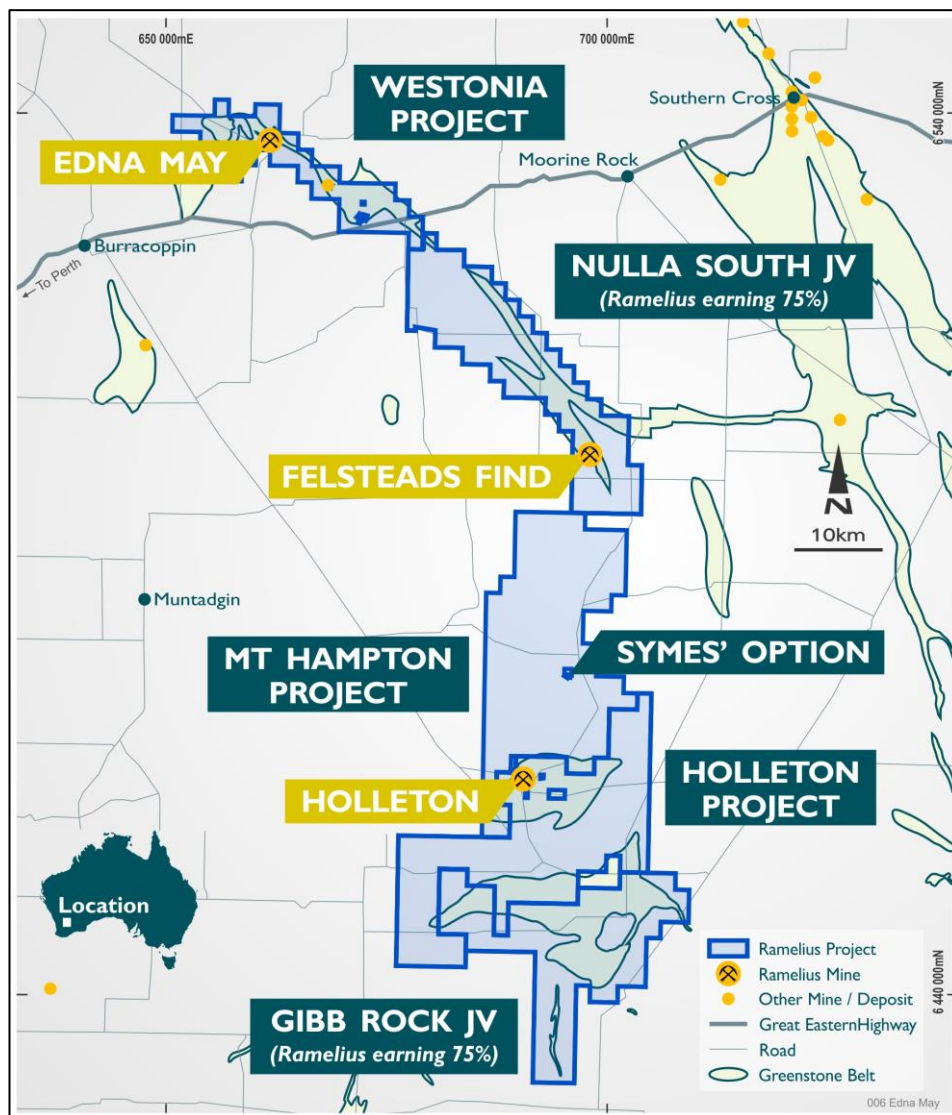

Figure 8: Gold exploration projects encompassing over 120km strike of the Westonia and Holleton Greenstone Belts
- **10m at 1.08 g/t Au** from 53m (refer Figure 8)
Ramelius has successfully consolidated a significant exploration land package around its Edna May gold mine, since the acquisition of the mine in October 2017. Ramelius is now the dominant land holder throughout the Westonia and Holleton Greenstone Belts as shown in Figure 8 below.